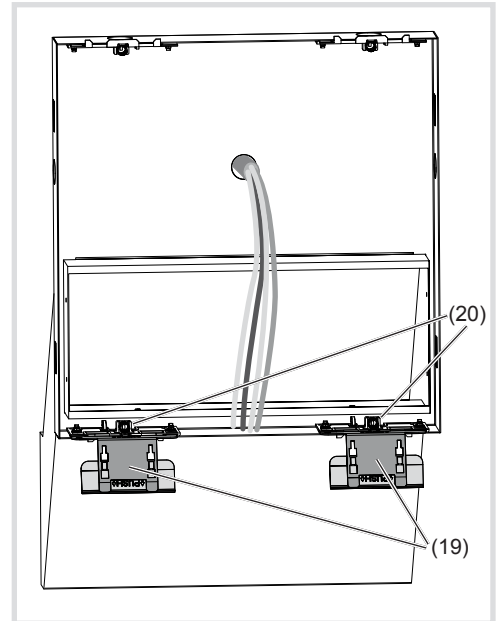

Figure 6: Inserted opening tools
- Insert both opening tools (19) into the mounting device of the lower fastening elements (20) on the housing (Figure 6).